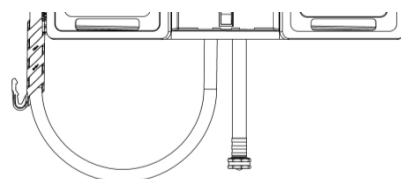

Figure 5
- Connect the supplied water hose to your water source and activate the dispenser by selecting a position on the dial and using either the bucket or bottle fill activation point (*Figure 5*)